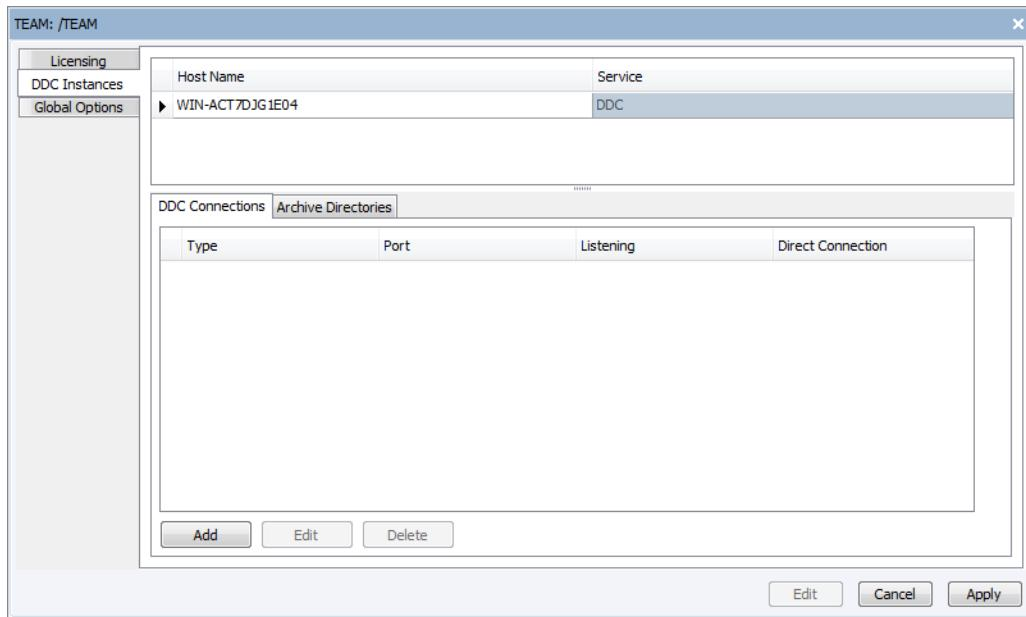

Figure 201 Add DDC Connection
- Step 3. Select **Edit** in the lower right-hand corner of your display and then **Add** under the **DDC Connections** tab, as shown in *Figure 201*.